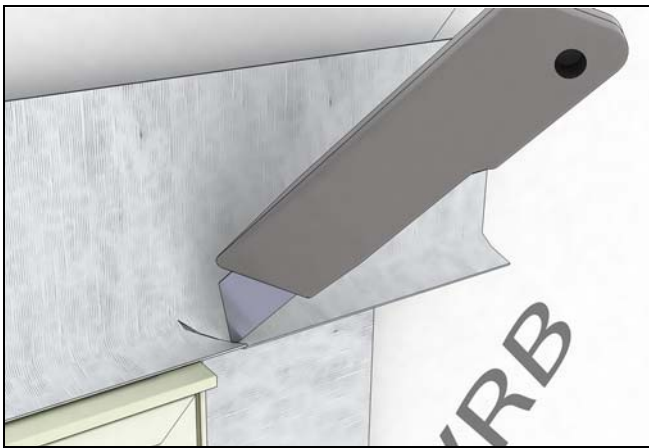
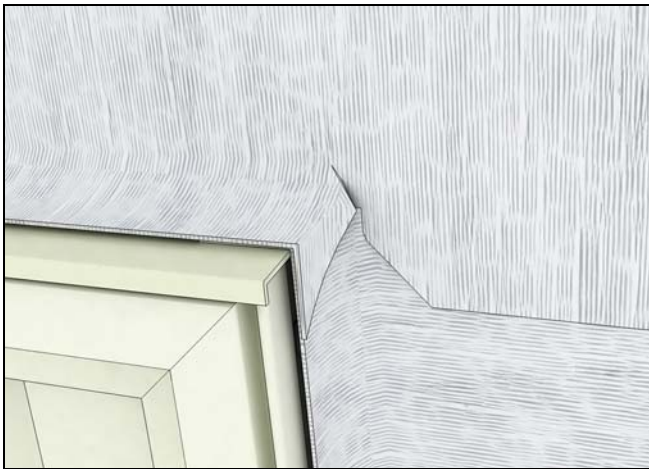

Figure 276
Figure 277
7. Install another layer of adhesive membrane lapping onto the rigid head flash of the window and over the sheathing. The membrane flashing at the head jamb should extend and cover the flashing previously installed at the jambs. Make relief cuts and fold down so the that it wraps around the jamb. See Figure 276 and Figure 277.